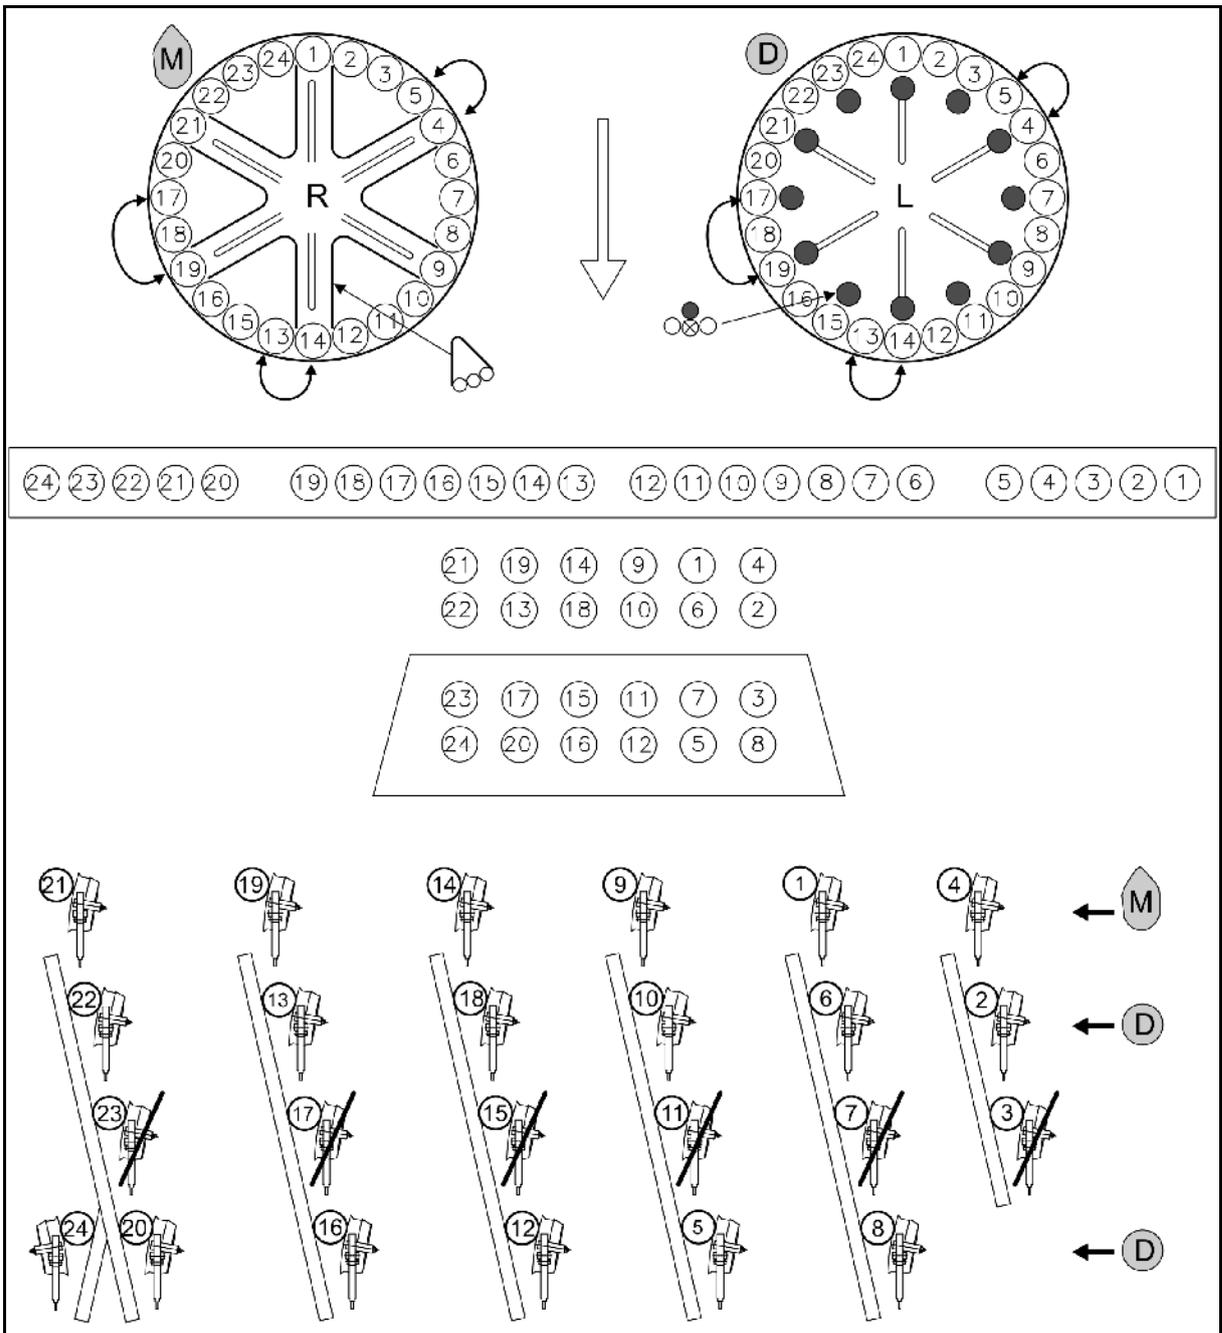

Fig. 43
- Maize M: Install the locking plates according to Fig. 43.
- Fertiliser D: Install the sealing plugs according to Fig. 43.